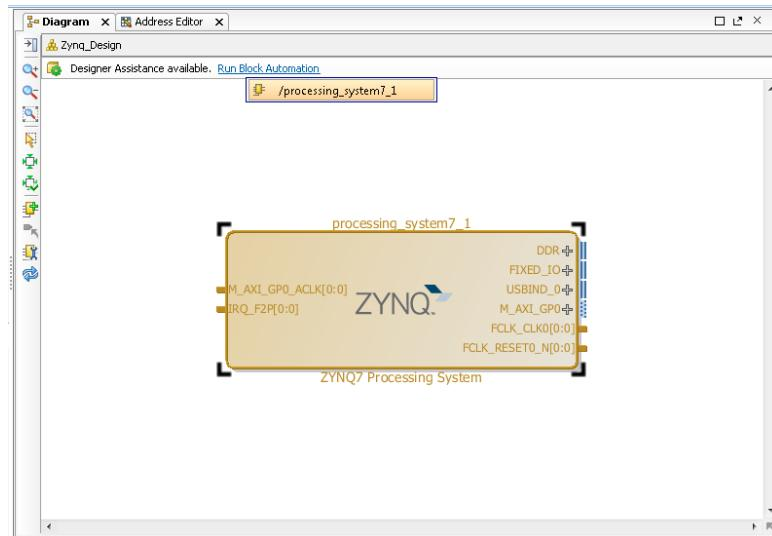

Figure 234 Run Automation
5. Click on the Run Block Automation link under the title bar (Figure 234).